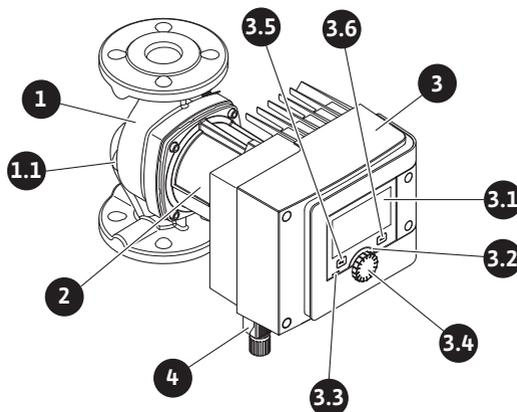

Fig. 1: Overview of single pump
There is an electronic module (Fig. 1/2, pos. 3) on the motor housing, which controls the pump and provides interfaces. Depending on the chosen application or control function, speed, differential pressure, temperature, or volume flow will be controlled.